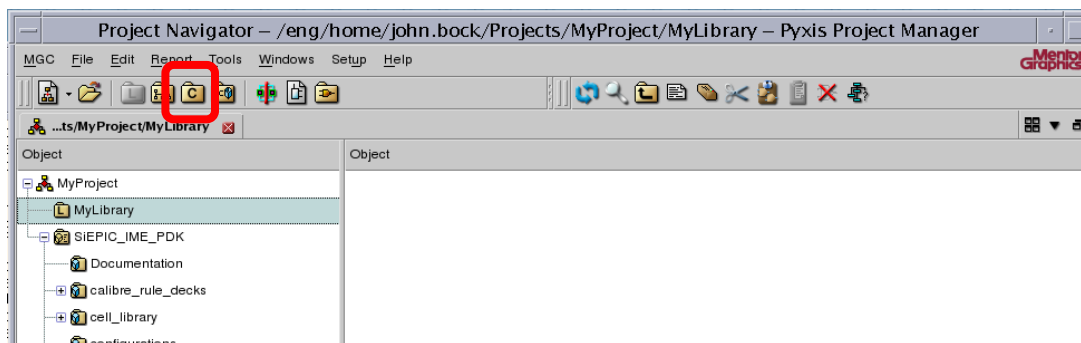

Figure 14: Creating a New Cell
4. In the left pane, select **MyLibrary** then, on the toolbar, click the icon **New Cell** (see Figure 14).
1. Under **MyLibrary**, create a new cell named **InstanceExample** (see Figure 14 on page 15).